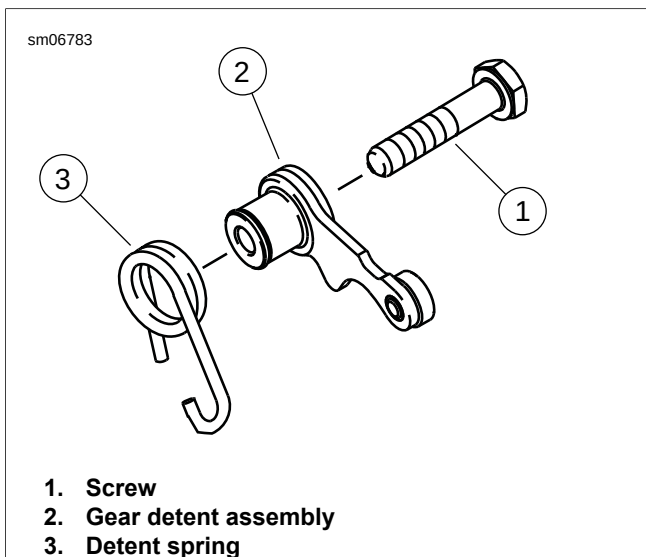

Figure 5-89. Gear Detent Assembly
- See Figure 5-89. Assemble detent spring (3) onto gear detent assembly (2).
- Secure with screw (1). Tighten to 90-110 in-lbs (10.2-12.4 Nm).